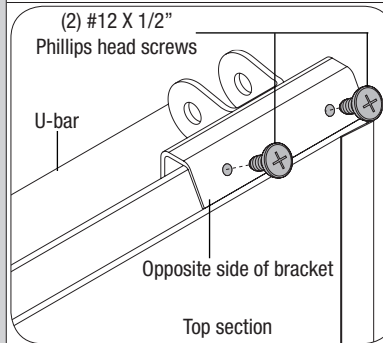

FIG. 1.3
Install (2) #12 x 1/2" phillips head screws on the opposite side of bracket, as shown in FIG. 1.3.